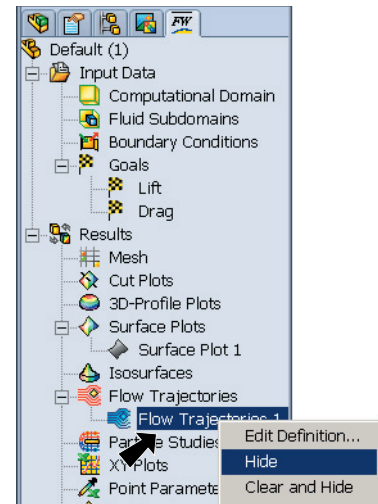

Fig. 29
Step 3. After viewing the flow trajectories, **right click Flow Trajectories 1** in FloWorks tree and click **Hide**, Fig. 29.